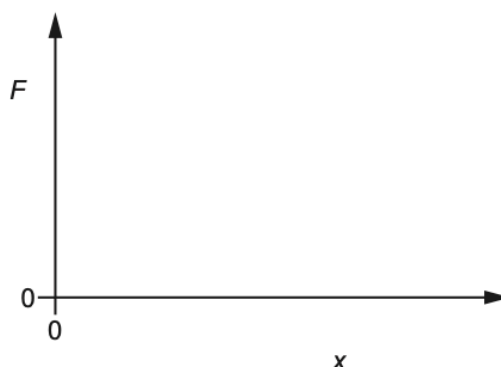

Fig. 4.1
- (i) On Fig. 4.1, sketch the variation of tensile force  $F$  in the wire with its extension  $x$ .
- (ii) State the name of the quantity represented by the gradient of the line in Fig. 4.1.
- (iii) State the name of the quantity represented by the area under the line in Fig. 4.1.